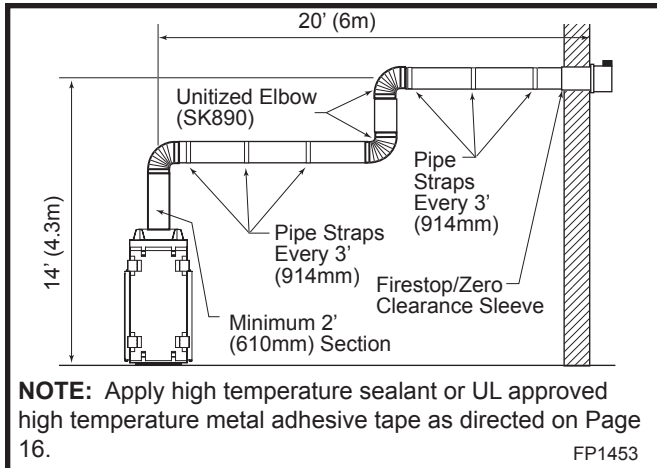

Fig. 15 Support straps for horizontal runs.
The vent must rise vertically a minimum of 24" (610 mm) off the top of the unit, before the first elbow. The horizontal run may extend up to 20' (6 m) and include a vertical rise of up to 40' (12 m). (Fig. 15) Horizontal termination must also meet the criteria shown in Figures 11 & 12.
A vertical vent system must terminate no less than 12' (3.66 m) and no more than 40' (12 m) above the appliance flue collar. A 2' (610 mm) vertical section must be installed before any offset. A maximum of 20' (6.1 m) horizontal and three (3) 90° elbows may be installed with a minimum of 12' (3.66 m) vertical section above the flue collar of the unit. Refer to Page 19, Figure 15 for more information.